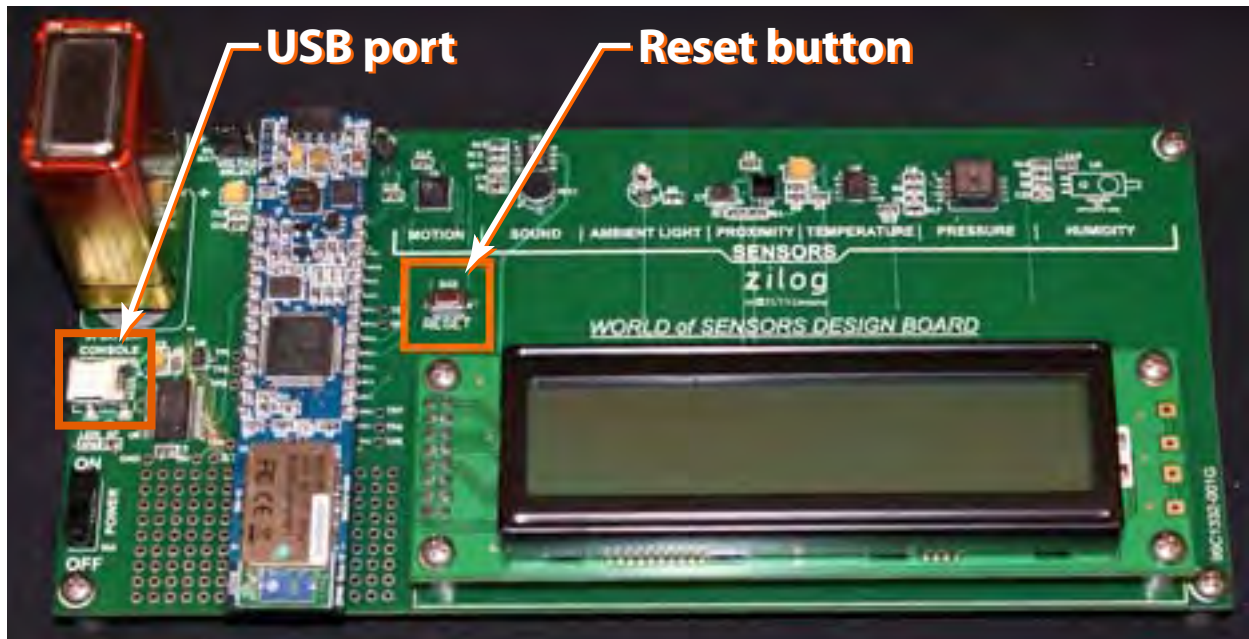

Figure 2. Zilog's World of Sensors Design Board with Module Attached
Figure 2 shows the Board with a battery and a Mini-Z™ Z-PAN® Module mounted onto it. Note the Reset button, which is highlighted in the figure.
1. Connect the USB cable from the PC to the WoS Design Board's USB port. The USB port is located adjacent to the battery terminal and is labeled CONSOLE, as shown in Figure 2 on page 2.